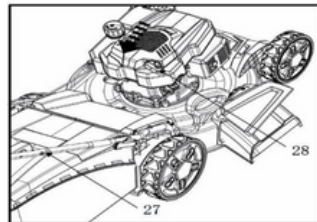

Fig. 11
2. Pull the starter handle (28) lightly until you feel resistance, then pull it quickly. Repeat this until the engine starts (Fig. 11).